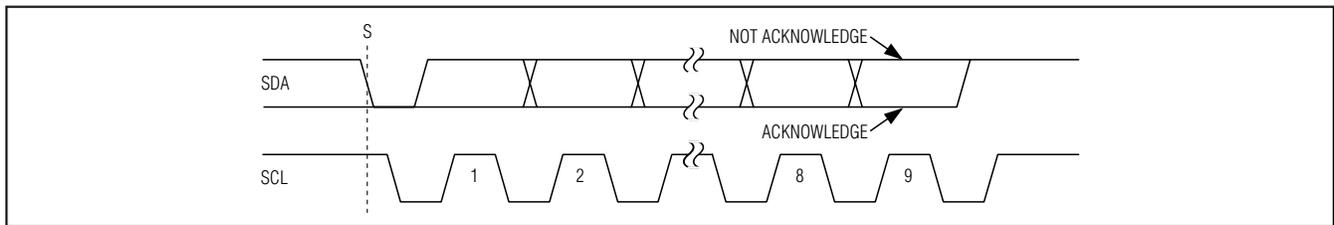

Figure 8. Acknowledge Bits
Successful data transfers are acknowledged with an acknowledge bit (A) or a not-acknowledged bit (\bar{A}). Both the master and the MAX1069 (slave) generate acknowledge bits. To generate an acknowledge, the receiving device must pull SDA low before the rising edge of the acknowledge-related clock pulse (ninth pulse) and keep it low during the high period of the clock pulse (Figure 8). To generate a not acknowledge, the receiver allows SDA to be pulled high before the rising edge of the acknowledge-related clock pulse and leaves it high during the high period of the clock pulse.